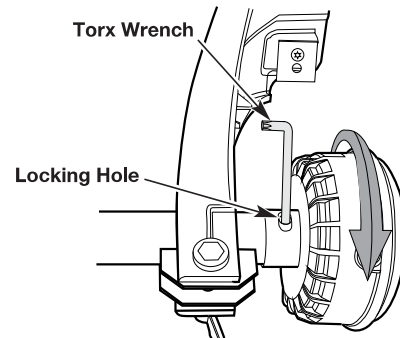

Fig. 19
1. Rotate the cutting head until the locking hole is exposed (Fig. 19).